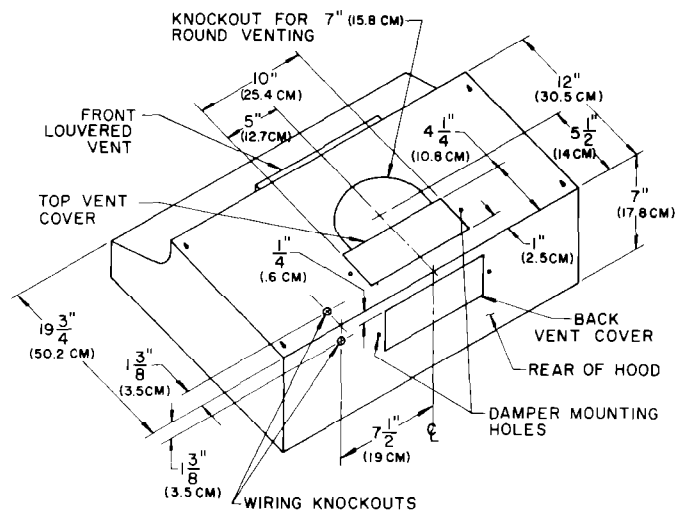

FIG. 1
2. Mark locations on cabinet or wall for ventilating duct and electrical wiring from dimensions given in Figure 1.